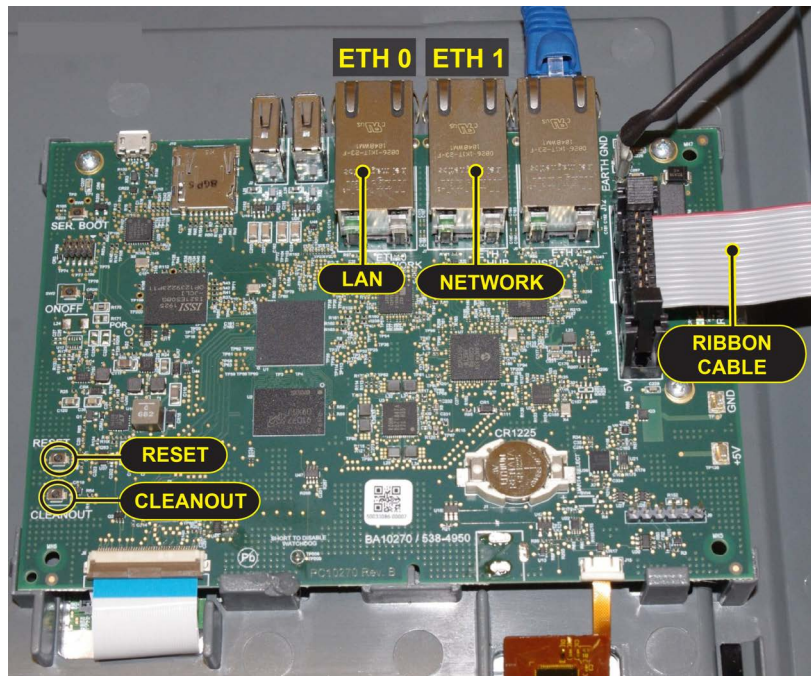

Figure 2-7 - E3 Circuit Board
2. Connect the 2-pin 7.5mm power connector and Ground wire as shown in Figure 2-7